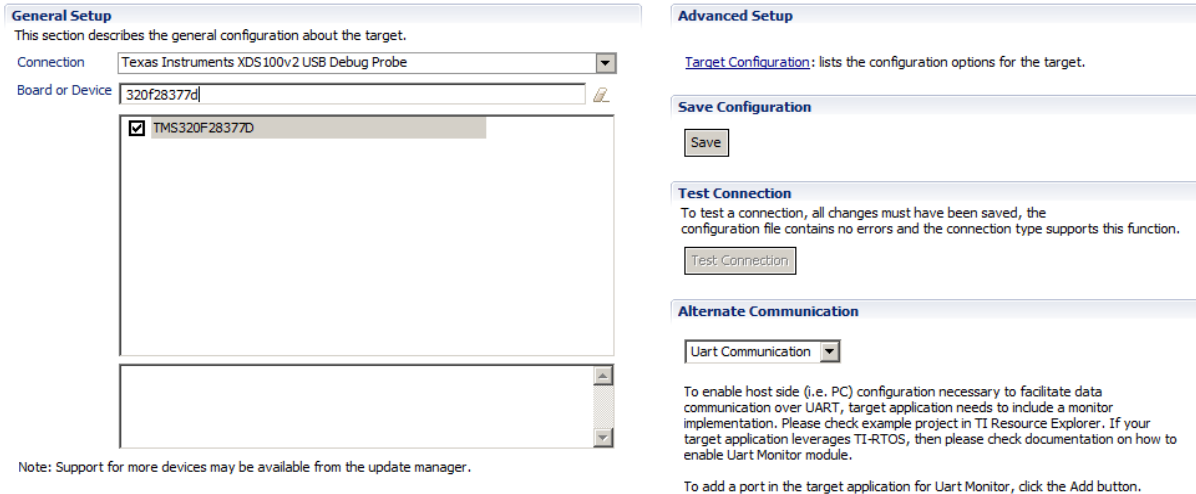

Figure 6 Configuring a new target
8. This should open up a new tab as shown in Figure 6. Select and enter the options as shown: